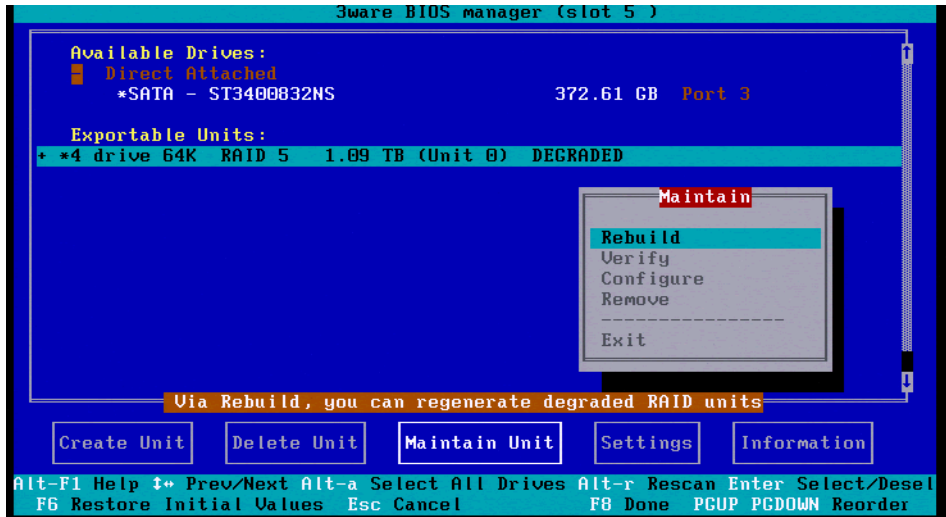

Figure 11 Select Rebuild in Maintain Menu
7. Use the <Tab> key to move to the Maintain Unit button, then press <Enter> to display the Maintain pop-up menu, as shown in Figure 11.
8. Use the arrow keys to select Rebuild in the Maintain menu, as shown in Figure 11, then press <Enter>.